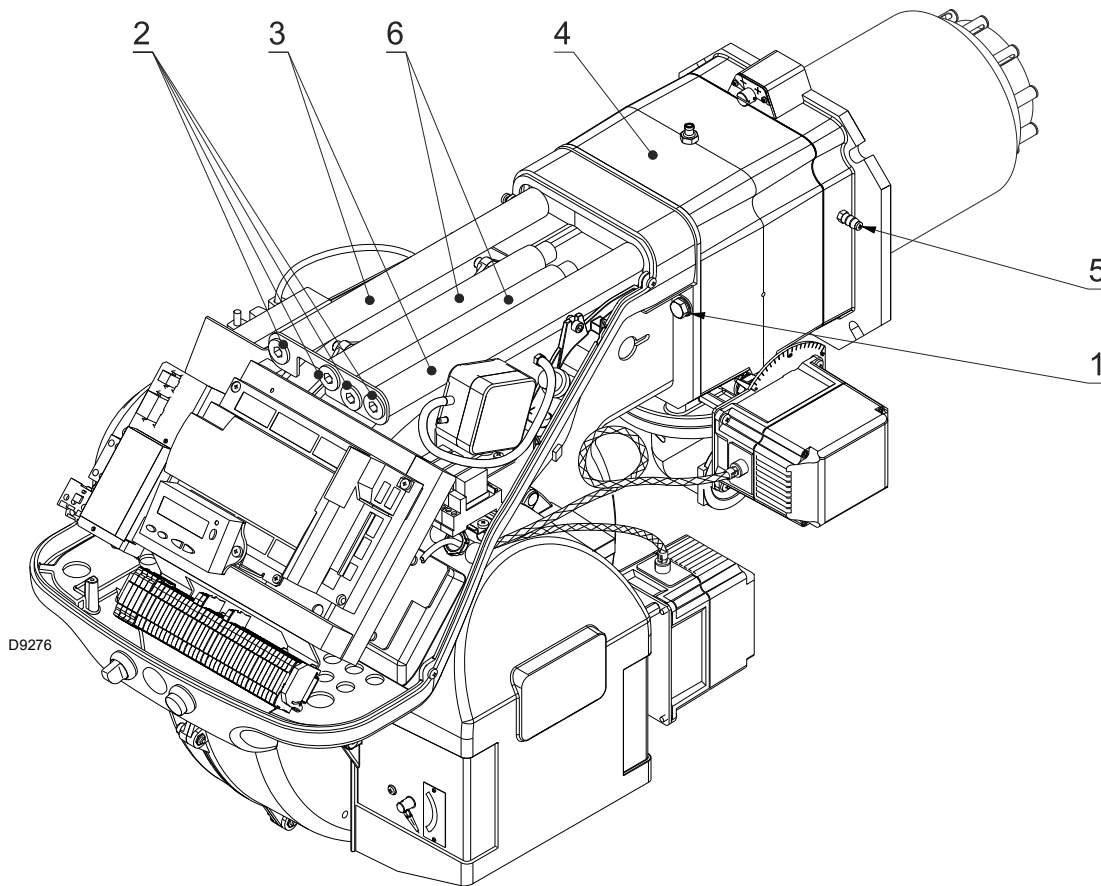

Fig. 19
- reassemble the burner on the guides 3) at about 4" from the pipe coupling 4) - burner in the position shown in Fig. 19;